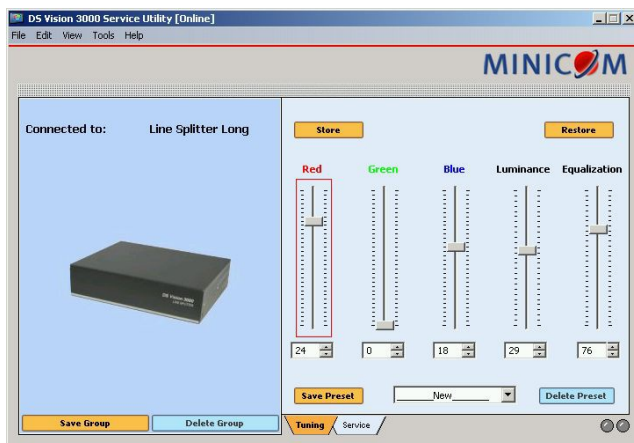

Figure 24 Tuning window
2. Click the Tuning tab or select View/Tuning. The Tuning window appears see Figure 24.